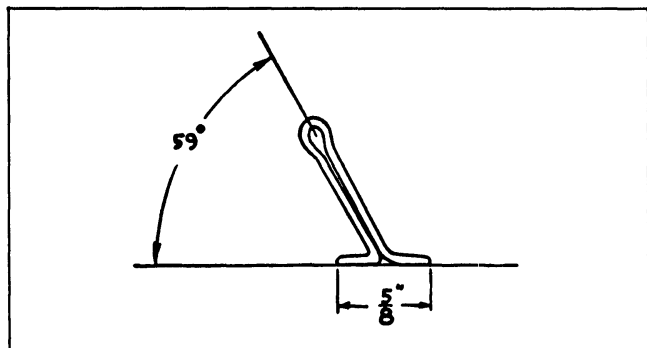

Fig. 6-59 Tool for Removing Upper Half of Main Bearing
4. Make a tool for removing upper half of bearing shell as shown in Fig. 6-59 KMO 734 can also be used.